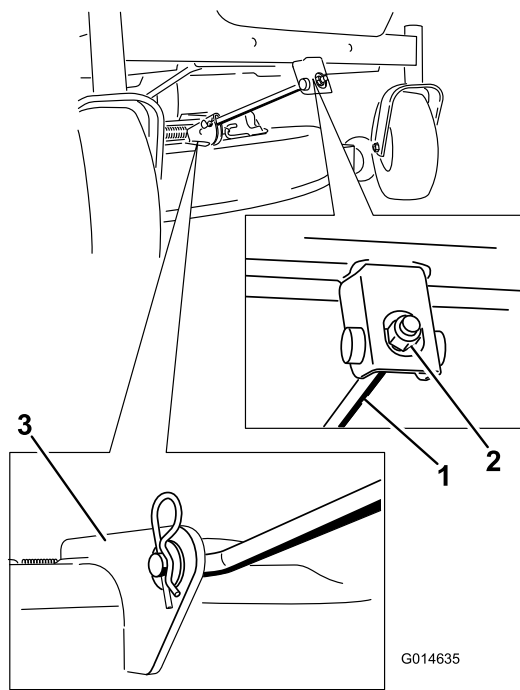

Figure 55
4. Remove the hairpin cotter from the front support rod and remove the rod from the deck bracket (Figure 55). Carefully lower the front of the mower deck to the ground.
6. Attach the front support rod to the mower deck with the clevis pin and hairpin cotter (Figure 55).